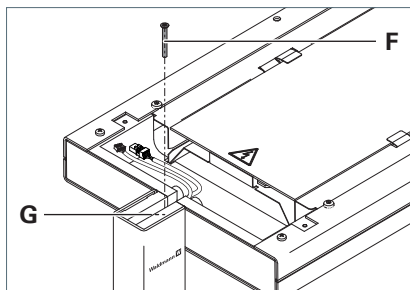

Fig. 16: Fastening the light head.
- Screw the screw **F** into the bore **G** in the support arm and tighten the screw, see Fig. 16.